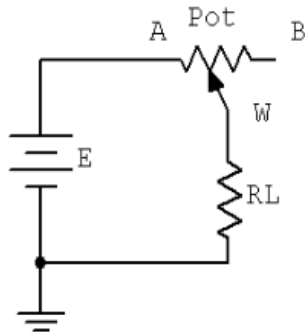

Figure 2.2
8. Construct the circuit of Figure 2.2 using $E = 10$ volts, a 100 k potentiometer and $R_L = 1$ k. Rotate the knob fully counterclockwise and measure the current through the load. Record this value in Table 3.3. Repeat this process for the remaining knob positions in Table 3.3.